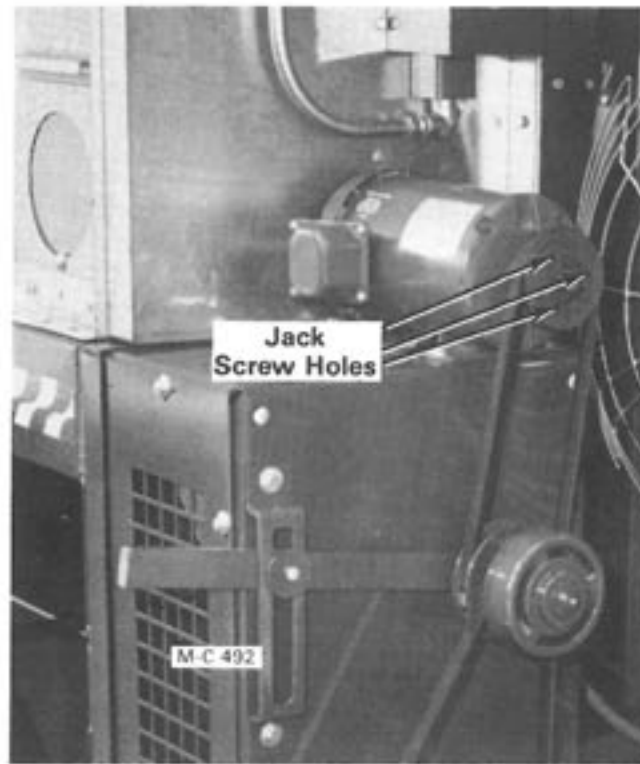

Figure 12
- A. Remove the three mounting capscrews in the pulley. Thread the capscrews into the three jack screws holes in the pulley, see Figure 12. Tighten the three capscrews progressively and evenly until the pulley is loose on the bushing.